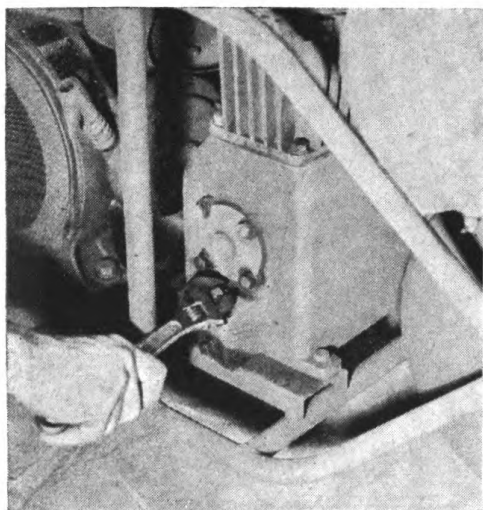

FIGURE 7
1. Remove plug See Fig. 7 and fill crankcase of compressor with oil up to level of the filler hole. Approximately $1\frac{1}{4}$ Qts. required. Use OE-30 (oil, engine SAE-30) for temperatures above 32° F., and use OE-10 (oil, engine SAE-10) 0° to 32° F. Below 0° F. use OE-10 (oil, engine SAE-10) with 20% kerosene.
2. Old oil should be drained and fresh oil added after 256 hours of operation. Under extremely dusty conditions the oil should be changed oftener. Drain plug is located immediately below filler plug. See Figure 7.